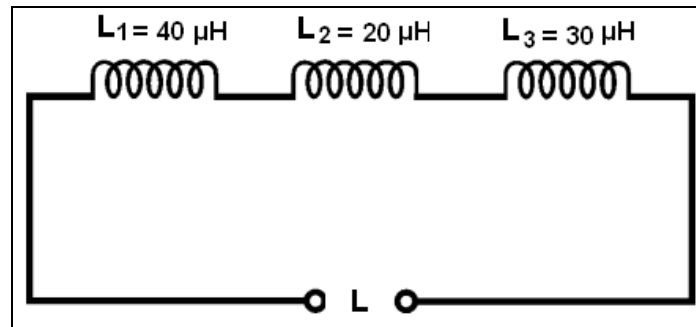

Fig. 2.1-15
1. Calculate the total inductance and total reactance at 60 Hz frequency in below circuit (Fig. 2.1-15)